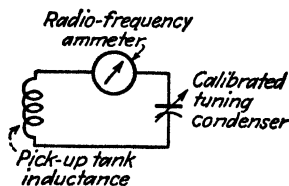

FIG. 3-19.
*Ans.* Figure 3-19 illustrates a typical circuit diagram of an absorption-type wavemeter. The coil of the wavemeter is loosely coupled to the circuit under measurement. The tuning condenser is varied until resonance is indicated by a maximum deflection on the radio-frequency ammeter.